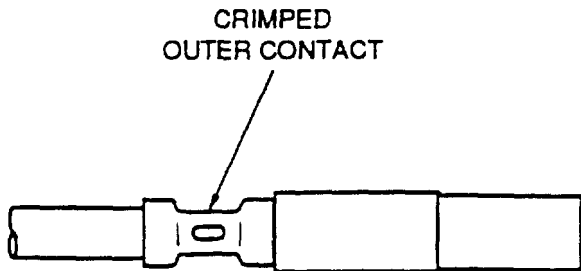

Figure 40. Crimp Outer Contact
i. Crimp outer contact to cable assembly using crimp tool frame M22520/19-01 and positioner M22520/19-04 (Figure 40).
e. Crimp outer contact to braided shield of cable using crimp tool frame M22520/21-01 and positioner M22520/21-04 (Figure 40).
g. Crimp outer contact to braided shield of cable using crimp tool frame M22520/21-01 and positioner M22520/21-04 (Figure 40).